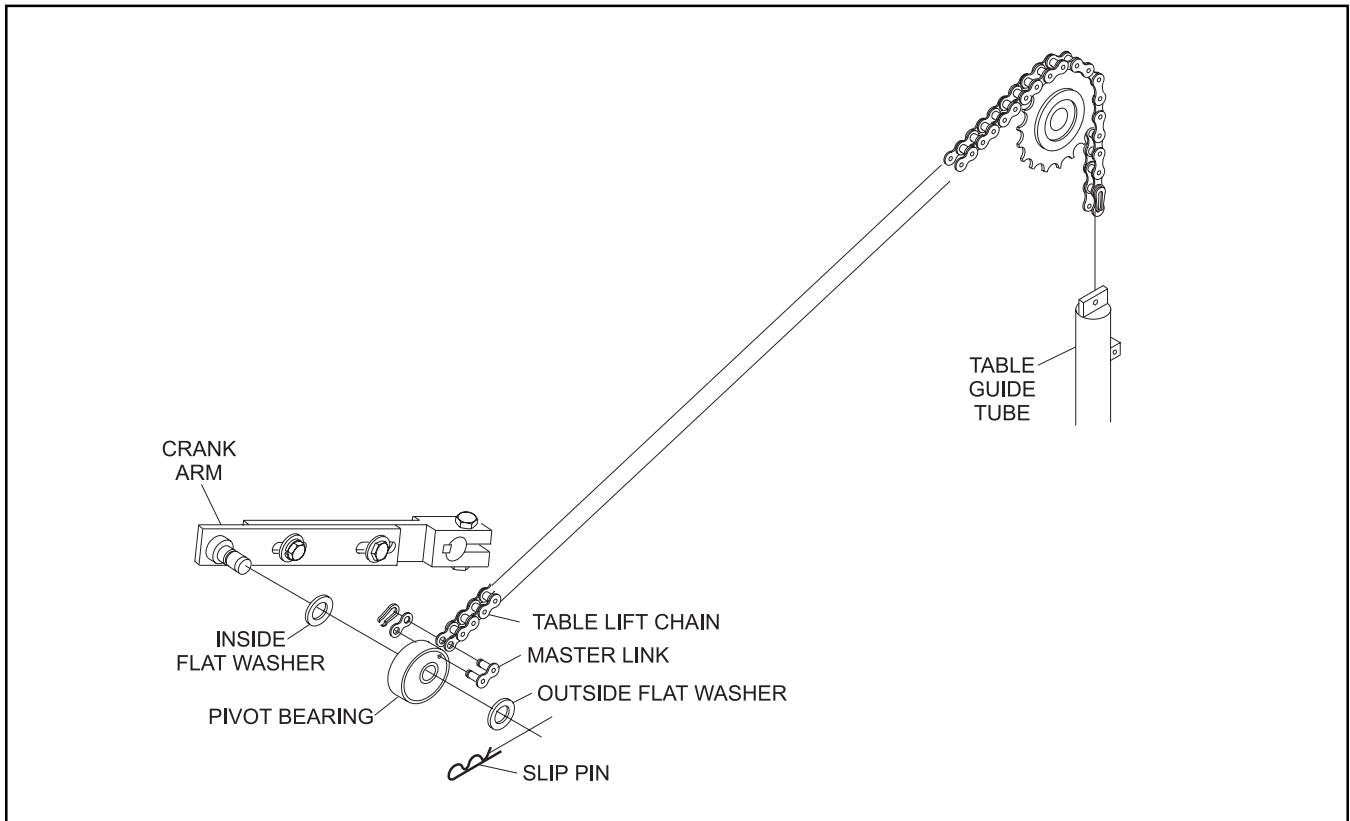

Figure 2. Table Crank Arm and Chain Assembly.
6. Remove the slip pin and outside flat washer from the crank arm shaft and remove the pivot bearing. Refer to Figure 2.